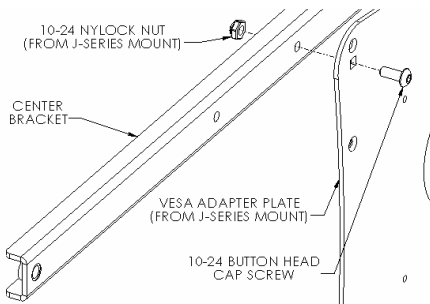
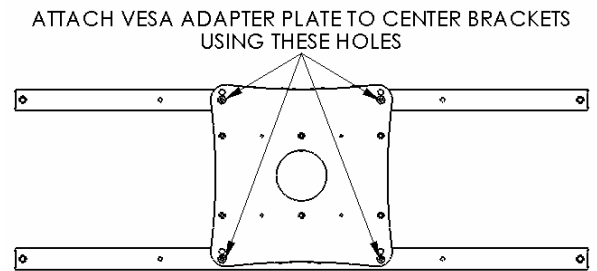

Figure 4
Figure 5
3. **J-Series VESA Interface Installation:** Using the 10-24 x .5" button head cap screws along with the 10-24 Nylock nuts (provided with J-series mount), attach VESA interface from J-Series mount to center brackets (see Figure 4 & Figure 5).